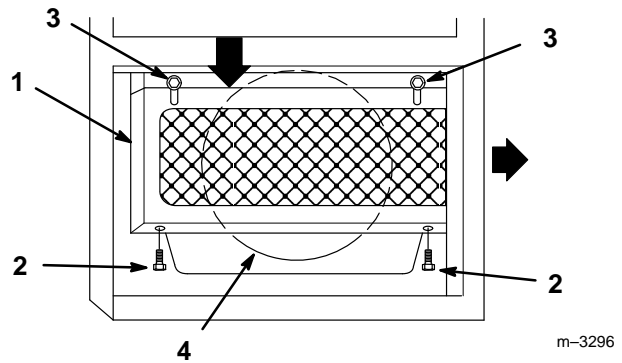

Figure 23
- Install screen from rear and raise over oil cooler. Secure with previously removed hardware (Fig. 23).
- To remove cooling screen remove lower bolts and loosen top bolts. Slide screen down and rearward to expose oil cooler (Fig. 23). Save all mounting hardware.
- Clean off engine air intake (Fig. 23).